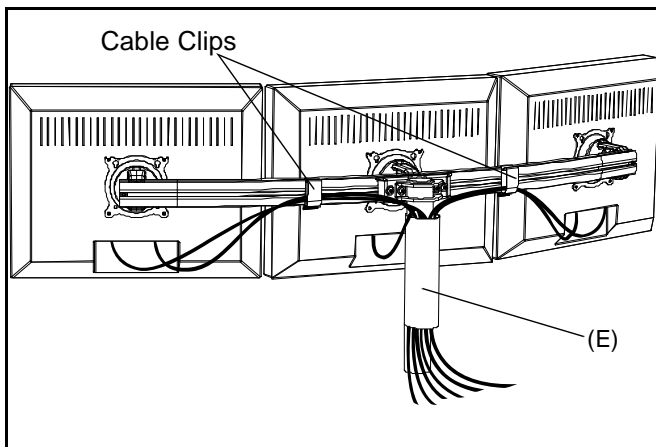

Figure 17
2. Route cables through cable clips on array rail. (See Figure 17)
3. Route cables down pole and away from mount and secure to pole using sheath (E). (See Figure 17)